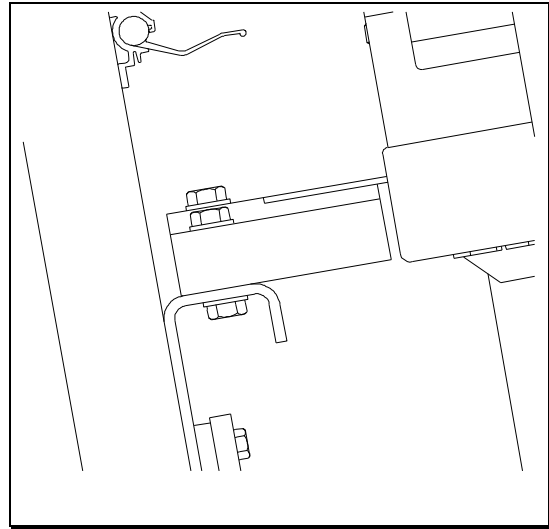

Figure 23
- 4 Position the saw-blade at the same height as wooden support.(Figure 23).